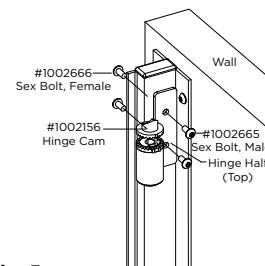

Fig. 5a
5. Install the top hinge half to the wall post using through bolts #1002665 and #1002666 then install hinge cam. **Fig 5a.**